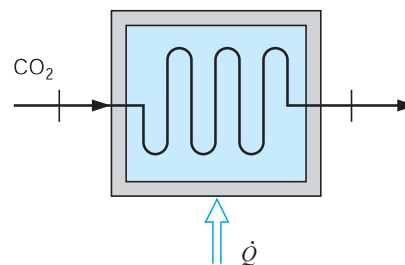

FIGURE P6.58
- 6.58** Carbon dioxide enters a steady-state, steady-flow heater at 300 kPa, 300 K and exits at 275 kPa, 1500 K, as shown in Fig. P6.58. Changes in kinetic and potential energies are negligible. Calculate the required heat transfer per kilogram of carbon dioxide flowing through the heater.